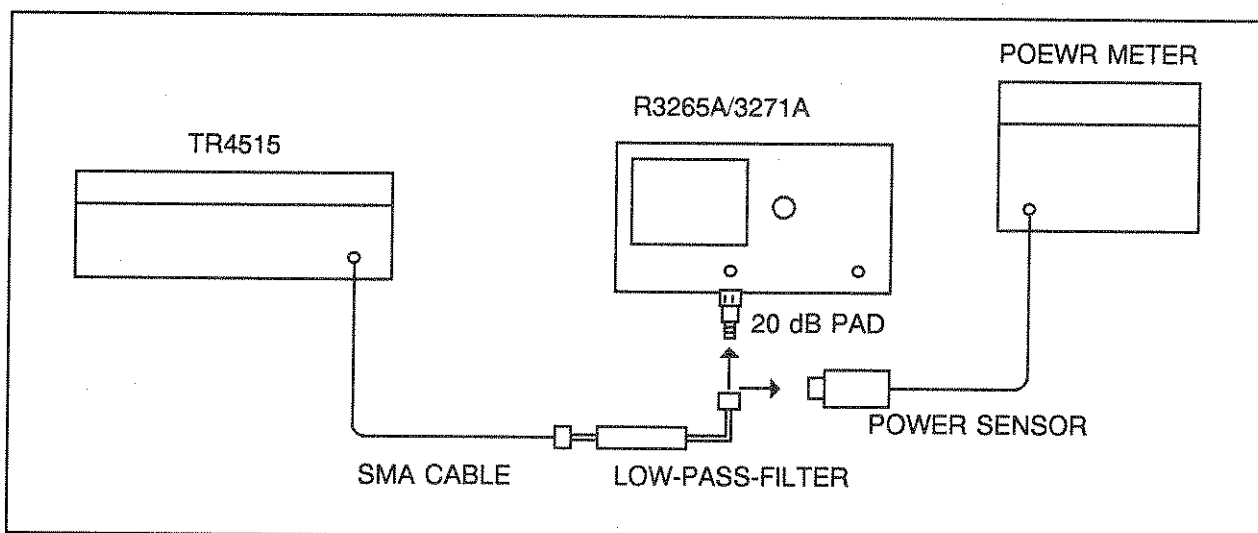

Figure 5-18 Frequency Response Adjustment (2) Setup
- (1) Zero and calibrate the power meter. Rotate and adjust the CAL FACTOR control to set the 421MHz calibration factor of the power sensor.
- (2) Connect the equipment as illustrated in Figure 5-18. However, connect the low-pass filter output to the power sensor.
- (3) Press the PRESET key of the TR4515, and set the controls as follows: